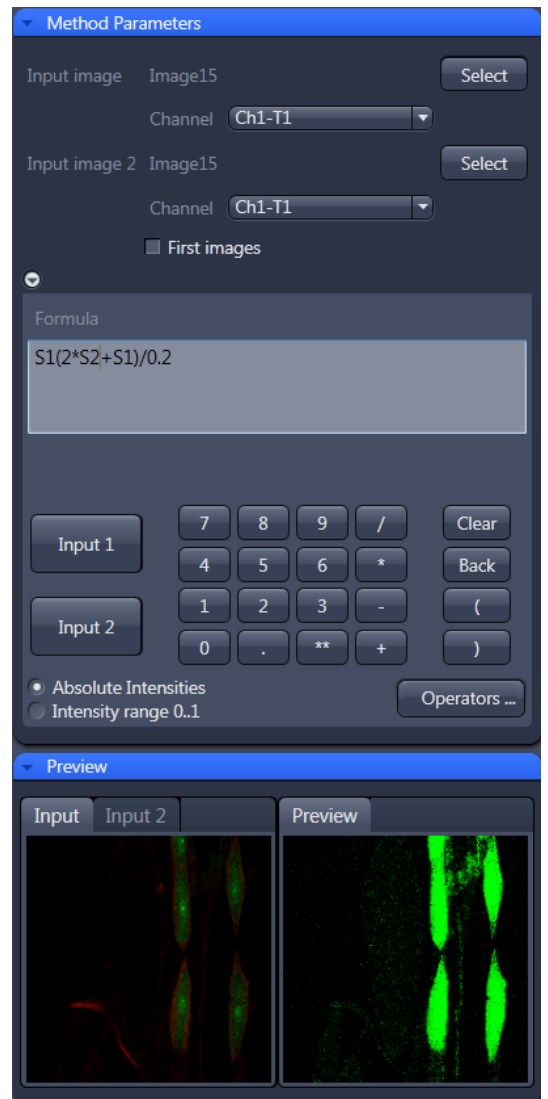

Fig. 263 Image calculation window
- Then type/edit an operator as shown in Fig. 263 that enhances the relative changes in the image with respect to the relatively bright signal level, for example: